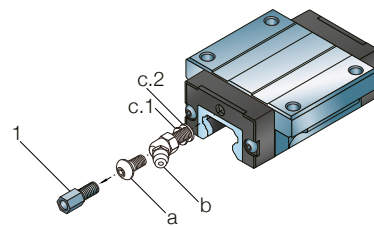

Fig. 33
1. Remove the grease nipple (b) and washers (c.1 and c.2), or the set screw (a) (↳ fig. 33)
2. Install the lubrication connector (1) onto the lube port.